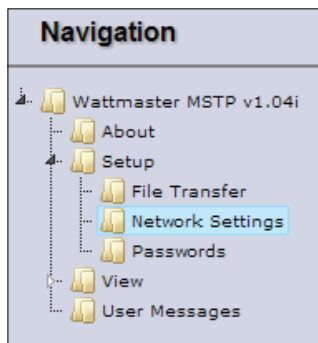

Figure 21: Setup - Network Settings
1.) In the *Navigation Window* on the left of the *FS-GUI Screen*, click **<Setup>** and then click **<Network Settings>**. See **Figure 21**. The *Networks Settings Window* will appear.